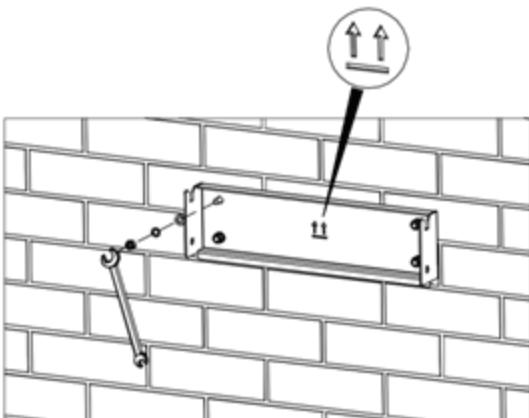

Figure 13: Fixer le support d'installation
(4) Fix the installation bracket onto the expansion bolts and ensure the installation is firm enough(tightening torque is $13\text{N}\cdot\text{m}$). As shown in Figure 13.